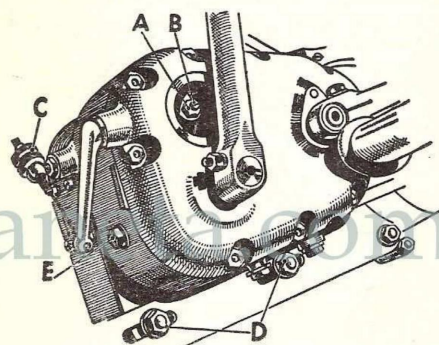

Fig. 12.
2. The gearbox clamping nuts. These are below the gearbox on the right-hand side and are shown at D in Fig. 12.
1. *The inspection cover (Fig. 12).* Remove this and take care not to damage the gasket. On the three-speed gearbox the cap is screwed in position, but in the case of the four-speed gearbox it is held by two screws.